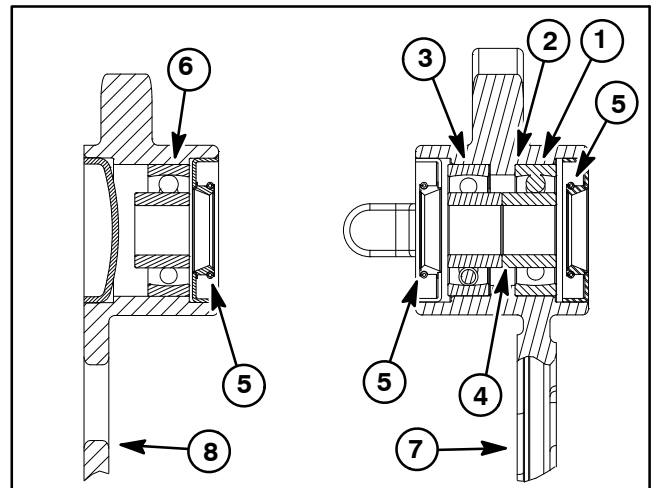

Figure 24
1. Install new grooming reel bearings and seals into RH drive plate and LH support plate assemblies (Fig. 24):